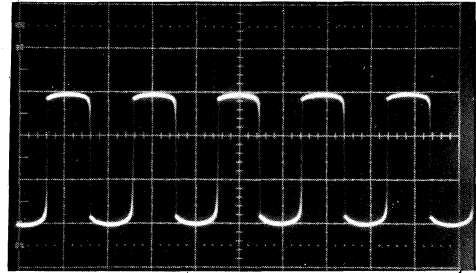

Fig. 5-10 At Pin #9 of BA652 (IC)
- Faulty operation can also be corrected by comparing with the normal condition waveforms, Fig. 5-10, 5-11, 5-12, 5-13.